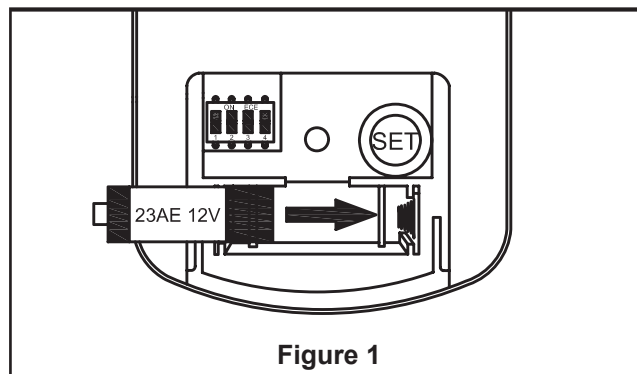

Figure 1
1. To make fan operational, install 23A/12V battery (included) in hand-held remote transmitter, with fan power off, arrange code switches to desired code setting. Then follow the remote code setting process. (If not used for long periods of time, remove battery to prevent damage to transmitter). Store the remote away from excessive heat or humidity. (Figure 1)